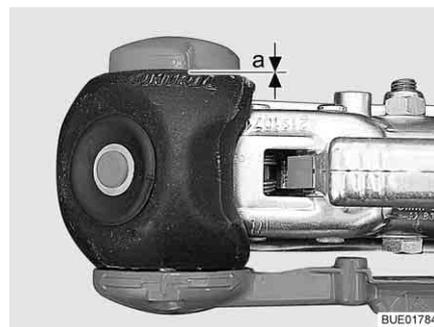

Fig. 209 Friction control
- Distance  $a = 0$  (Fig. 209): Check and, if necessary, replace the friction pads.